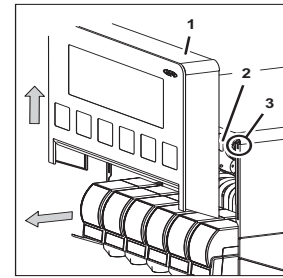

Fig. 8
2. Lift the promotional panel (Fig. 8/1) off the unit.
3. Suspend the promotional panel (Fig. 8/1) in the uppermost position (Fig. 8/3) on the unit with the assistance of the mounts (Fig. 8/2).